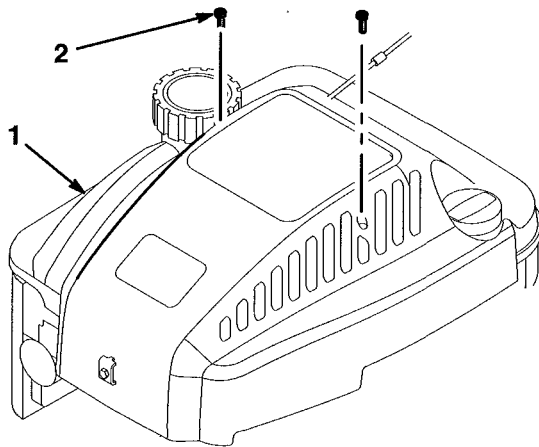

Figure 21
2. Remove (2) screws from engine cover and lift off cover (Fig. 21).